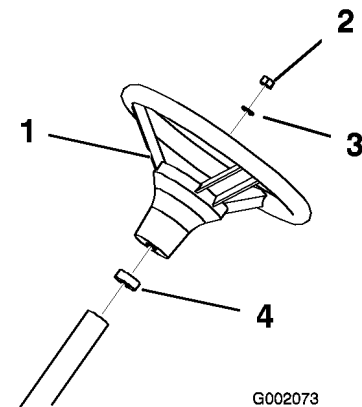

Figure 4
3. Secure the steering wheel to the shaft with the nut (Figure 4).